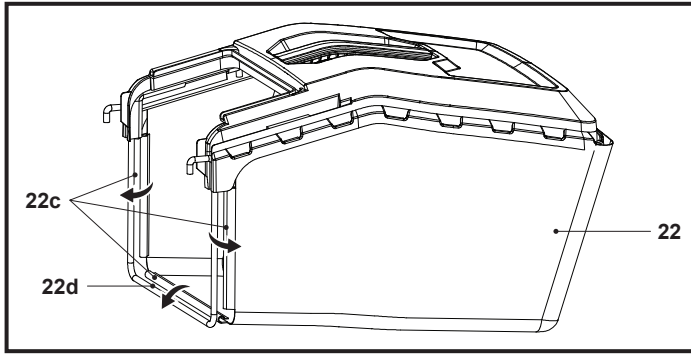

Fig. 5
1. The grass catcher (22) is partly assembled at delivery status.
2. Clip the three rubber clips (22c) onto the supporting rod (22d) of the grass catcher (22) (Fig. 5) and the grass catcher (22) is ready for use.